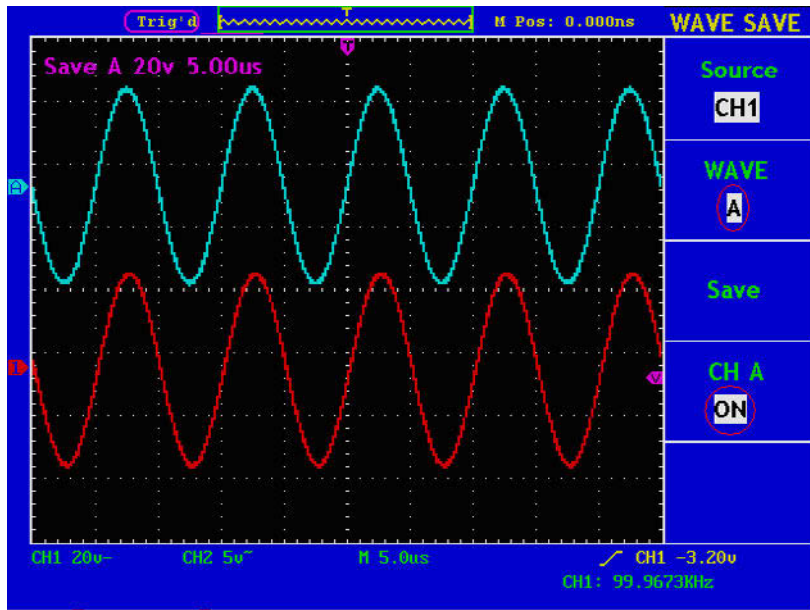

Figure 58. Wave Saving.
- 1 Press **F2** next to Wave to select from one of four locations, the CH(X) would show the location you've chosen.
- 2 Press **F4** next to CH(X) to change to ON. Now you will see a stored waveform displayed on the screen with whatever waveforms are already on there.
- 3 Example to save/recall a waveform from location A. Fig.58.